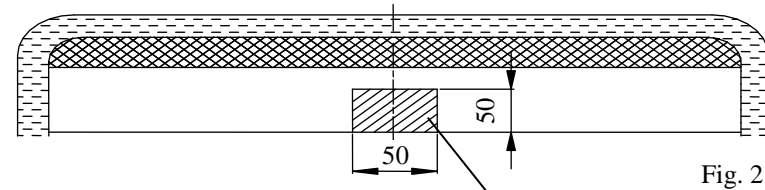

Fig. 2
4. The main bar of the towing hitch (pos. 1) put into the boot and through already made four holes A fix with ball bracket (pos. 4) using bolts M10x35mm (pos. 9) from accessories.
5. From below the car put distance sleeves L= 58mm (pos. 5), and next through holes B fix using bolts M10x90mm – pos. 8 (use big washers – pos. 10).
6. From the bumper side through holes C drill holes $\varnothing 1$ mm and fix using bolts M10x35mm (pos. 9) from accessories (use big washers – pos. 10).
7. Install the bumper after cut out of its fragment (see fig. 2).